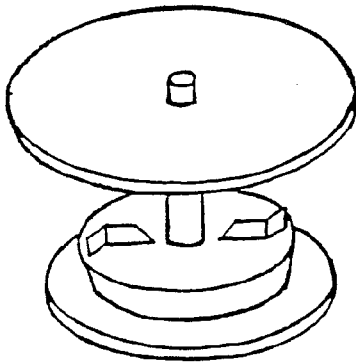

Figure 11
2. Place circulator assembly into pump well, with small plate down (*see Fig. 11*).